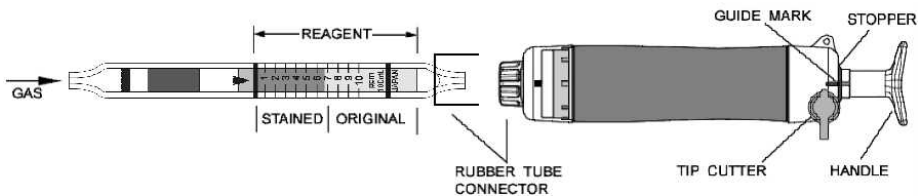

Fig.1
- ① Break both ends of the detector tube.
- ② Insert the detector tube into the aspirating pump securely as shown in Fig.1. (Arrow mark shall point to the pump.)
- ③ Align the guide marks on the shaft and stopper of the aspirating pump.
- ④ Pull the pump handle at a full stroke until it locks and wait for 1.5 minutes or until the completion of sampling is confirmed with the flow indicator of the pump. (See descriptions about the flow indicator in the instruction manual of the pump.)
- ⑤ On completion of sampling, read the scale at the maximum point of the stained layer.
- ⑥ When the concentration is below the scale range, 4 pump strokes can be used to determine concentrations of 0.2 to 2.0 ppm. Then correct the tube reading by correction table. (REFER TO ITEM 3. CORRECTION FOR AMBIENT CONDITIONS AND PUMP STROKE.)